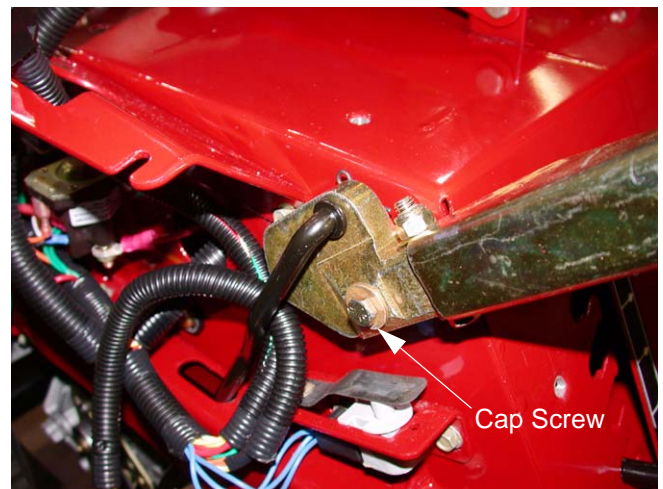

Figure 16.4
- 16.4. Remove hex head cap screw and flat washer securing the control hub to the control shaft. See Figure 16.4.